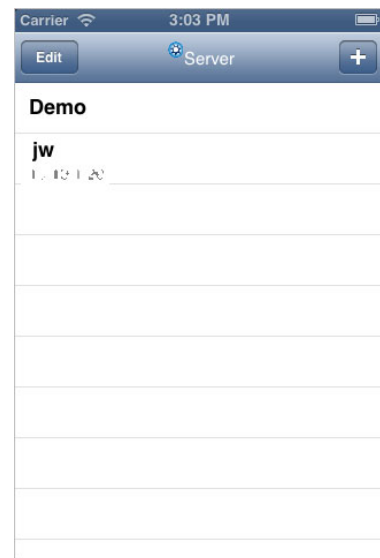

Figure 22-2: The Server List
1. From the **Server List** screen, touch the “+” button, which is located in the upper-right corner (see Figure 22-2 above).
1. Display the Server List (as shown in Figure 22-2 on page 22-7).